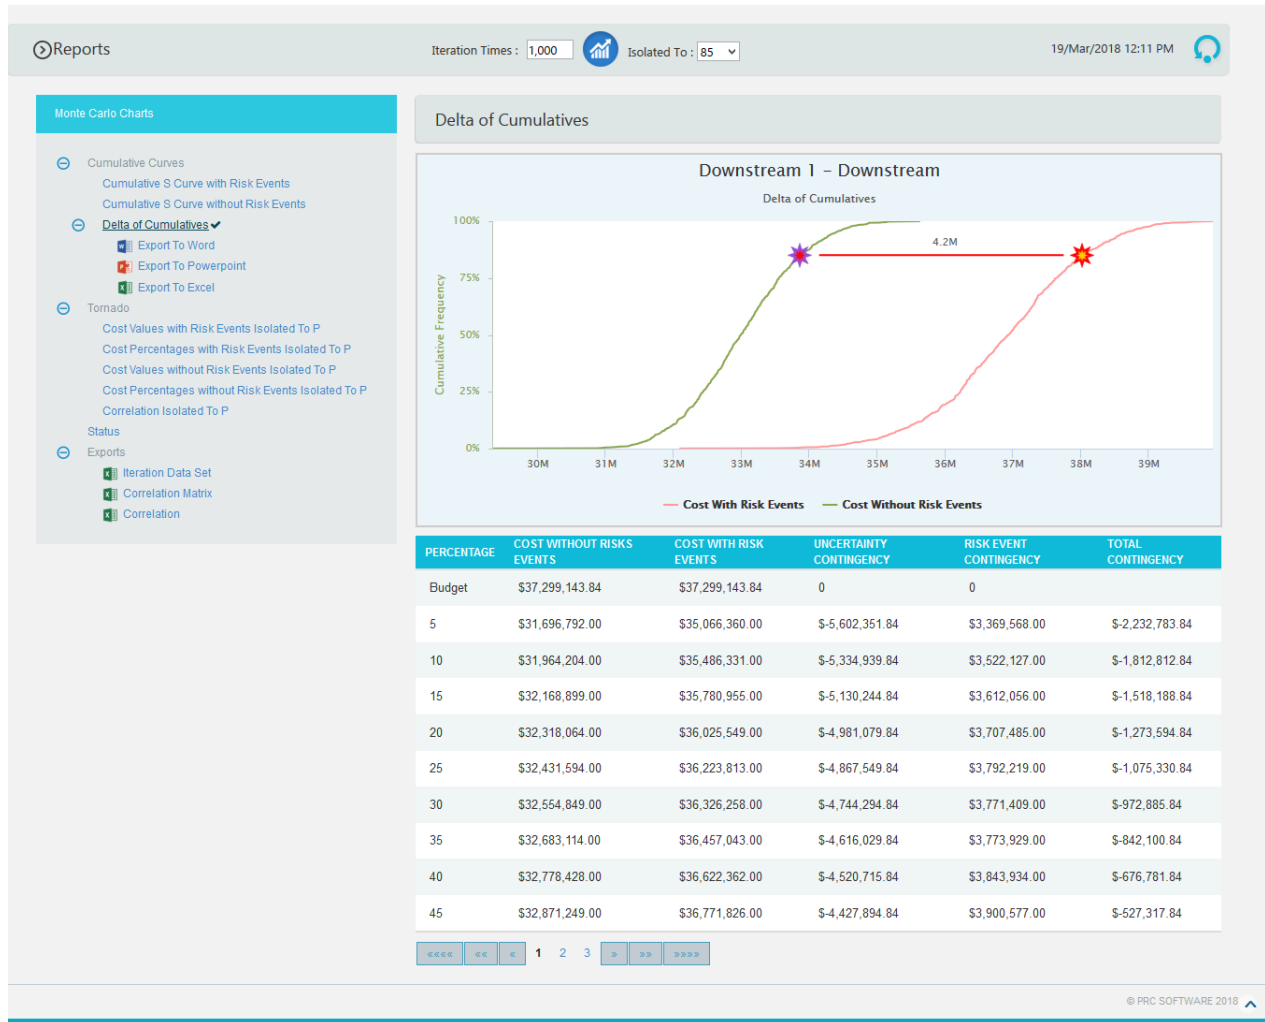

Figure 2.66
3. Set the **Iteration Times** and then click **RUN ANALYSIS** icon. (Figure 2.66) The chart generated and the table is shown in the Figure 2.66